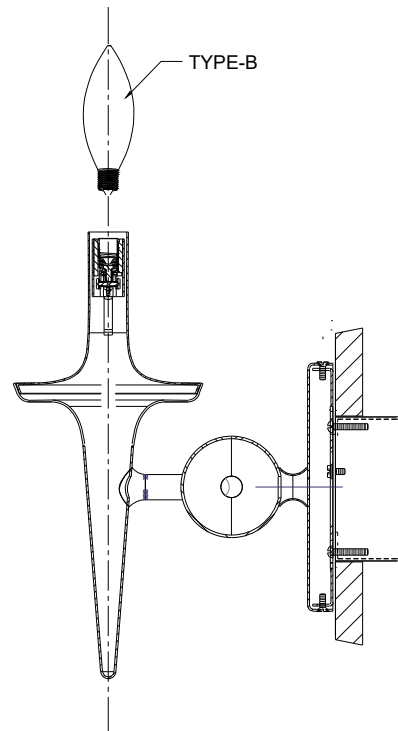

FIGURE-04
6. Place the lamp into the socket of the fixture. (See FIGURE-04)